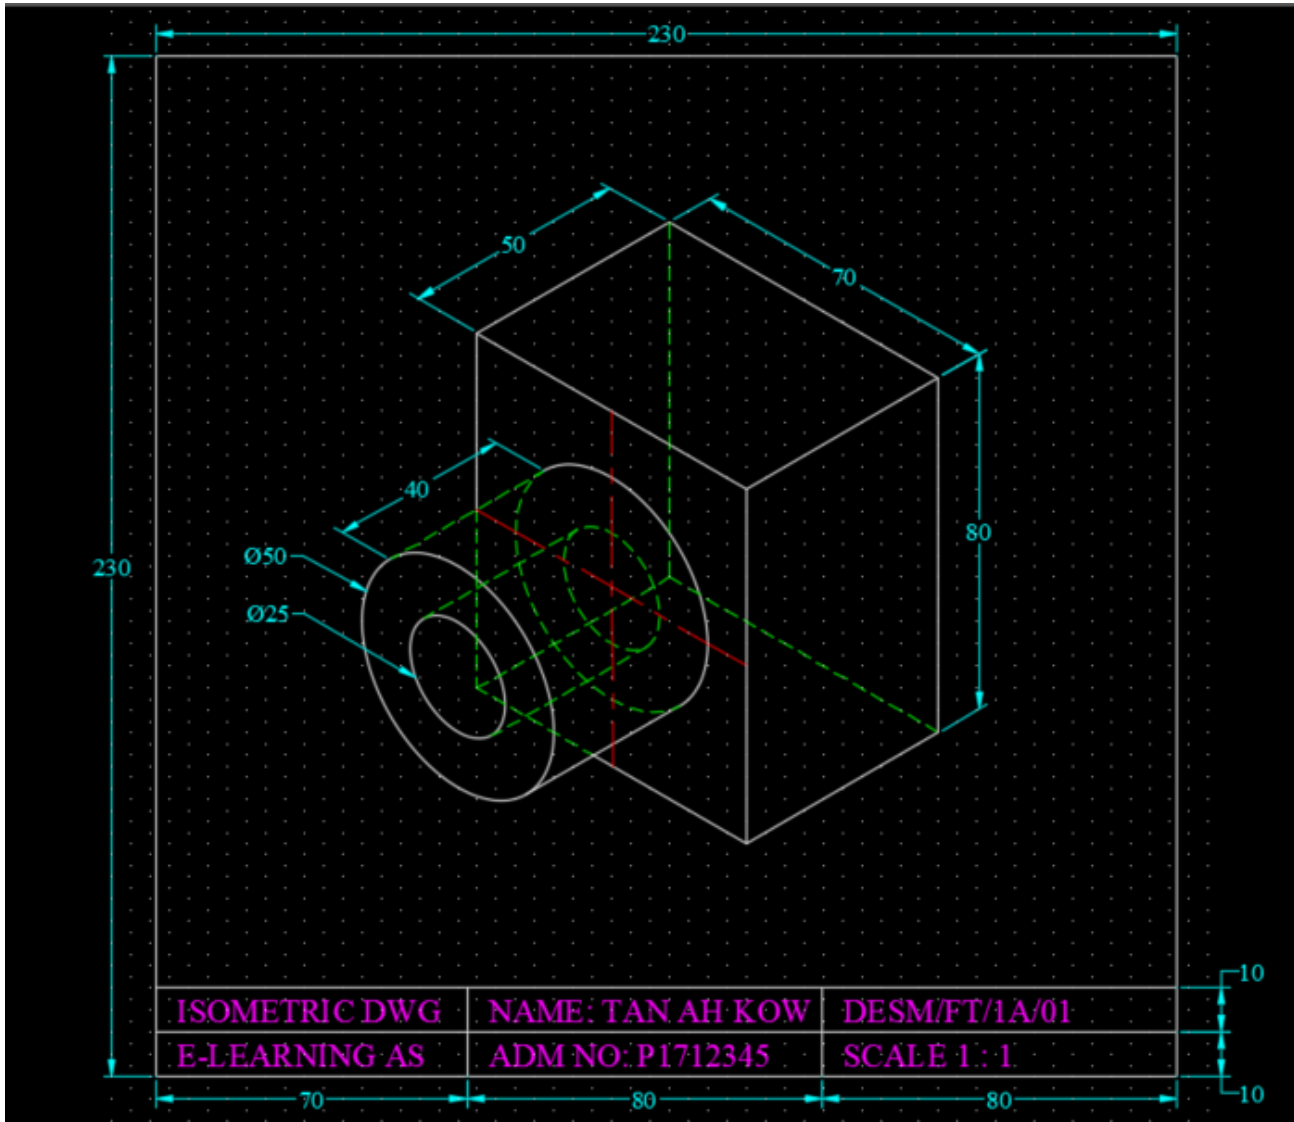

FIG 18
19. The final dimensioning of this object should look like FIG 18 below: